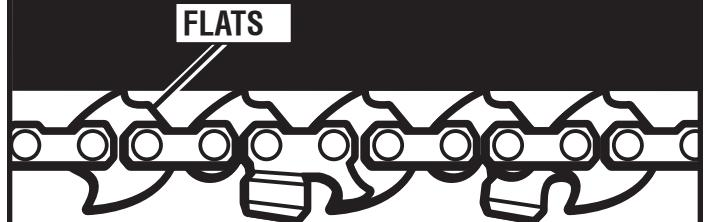

Fig. 11
See Figures 11 - 12.
- Chain must be re-tensioned whenever the flats on the drive links hang out of the bar groove as shown in fig. 11.